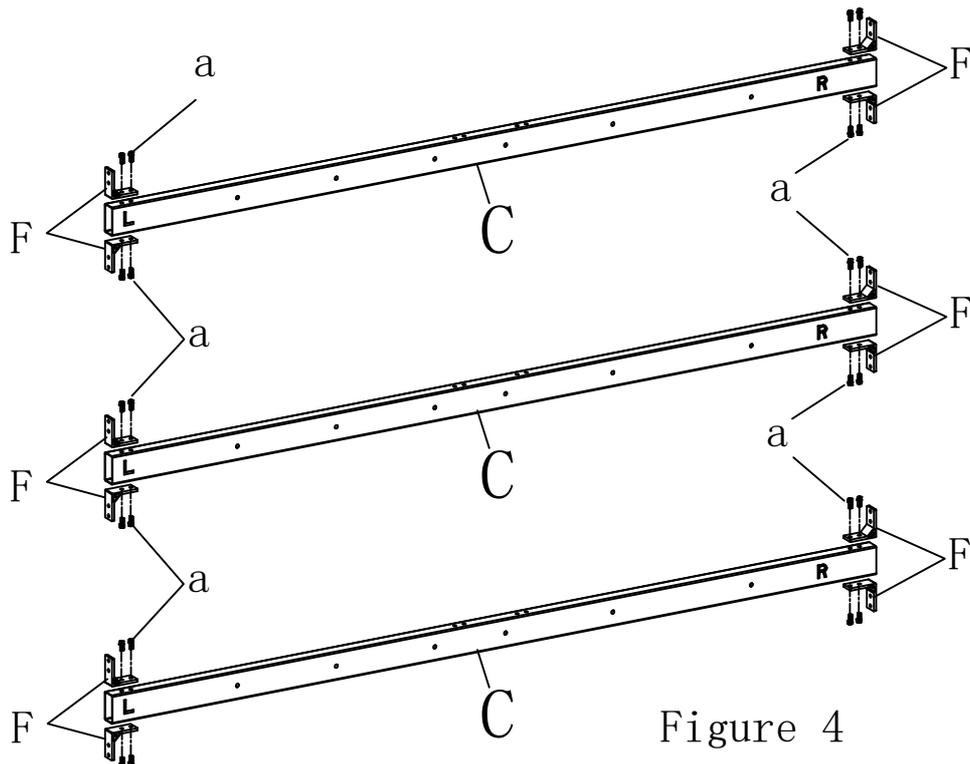

Figure 4
2.2.1 Take out the aluminum corner code, install it in combination with three crossbeams as shown in the diagram, and lock it with screws (a) on both sides for later use. (Figure 4)